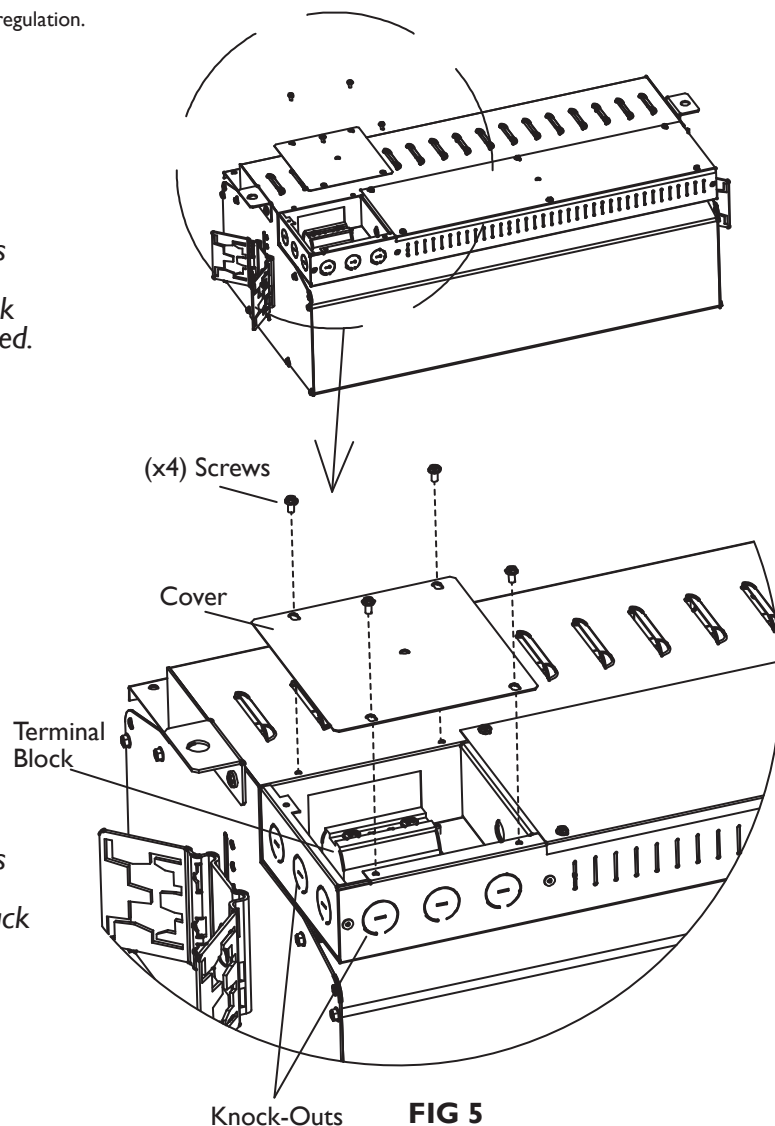

FIG 5
2.1 - Remove the wiring box cover by removing 4 screws. (Fig. 5).